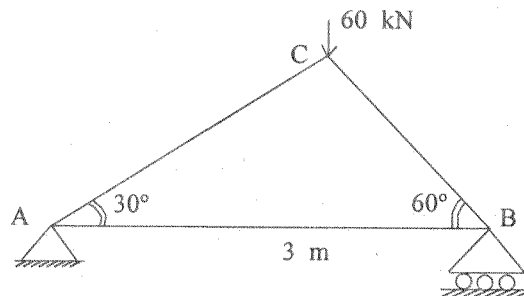

Fig. 1
7. Determine the vertical deflection of the loaded truss shown in Fig. 1 at joint C. Take $E = 2 \times 10^5 \text{ N/mm}^2$ and $A = 100 \text{ mm}^2$ for all the members. 3